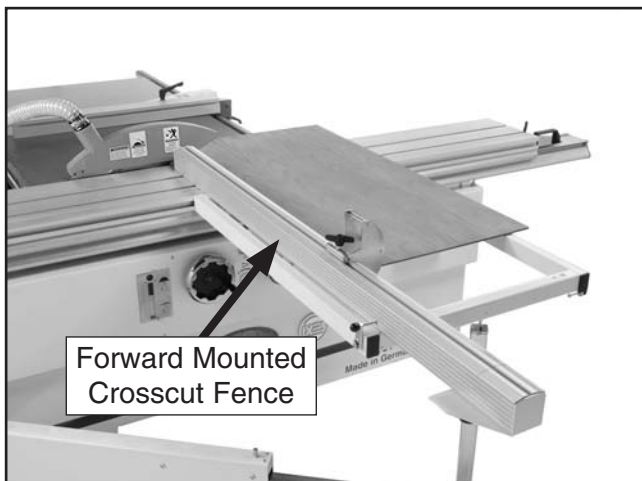

Figure 68. Crosscutting full size panel.
The Model G0674 can crosscut full size panels with the crosscut fence in the forward or rear position. It is generally easier to load full size panels with the crosscut fence mounted in the forward position (see **Figure 68**).
4. Load the workpiece onto the table saw. The setup should look similar to **Figure 68**.